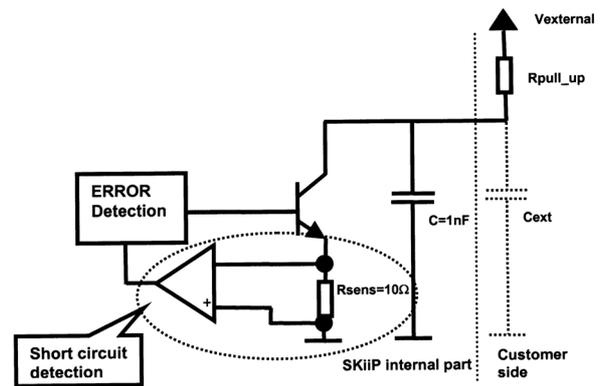

Fig. 10 SKiiP2 - Open Collector Error Transistor
- Fig 10 illuminates the principle of the Error output for SKiiP 2. The error transistor is an ordinary open collector transistor. The resistor Rsens acts as sensor for the short circuit protection. In case that the current exceeds the specified Imax = 15 mA the transistor will be turned off and the error signal can be detected by the